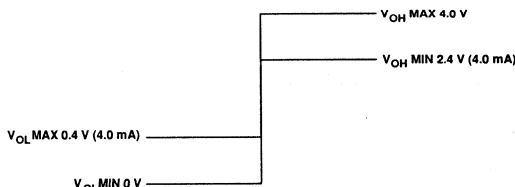

Figure 12. Receive Clock, Data and Byte Sync Driver Levels.
6. The drive levels given are appropriate for Receive Data, Receiver Clock, and Byte Sync signals. The Receive Data, Receive Clock, and Byte Sync TTL drivers are push-pull totem pole drivers with a $25\ \Omega$ series resistor to dampen transmission line reflections (see Figure 12).